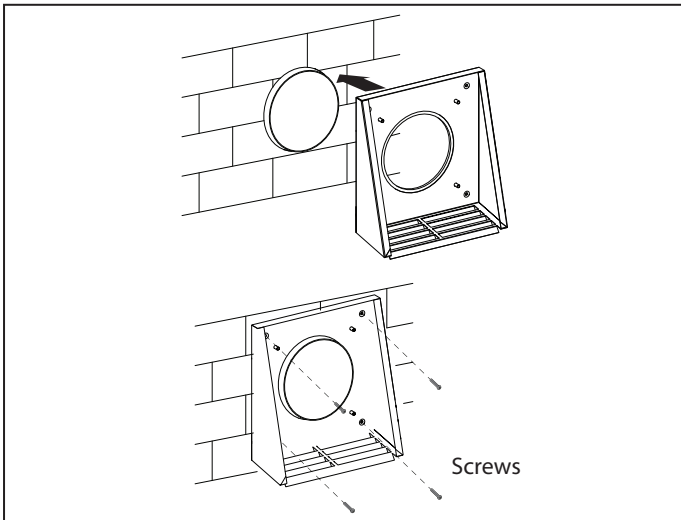

Fig. 13a.
- Fig. 13a - models VENTO A50 / A50-1. Fix the back part of the outer ventilation hood to the wall with the screws 4x40 from the delivery set.